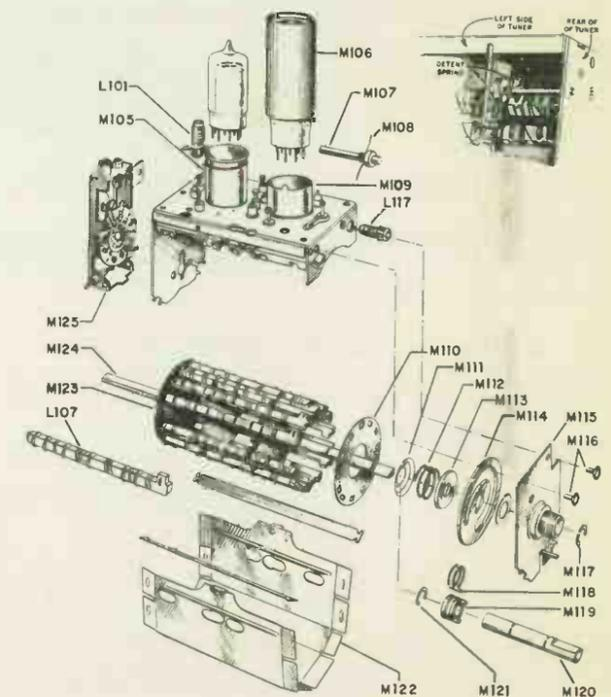

Figure 59. Exploded View of VHF Tuners 94E163-1 and -2. Partial illustration shows placement of detent spring and detent roller.
4. See the partial illustration on figure 59 for proper placement of detent spring and detent roller during tuner reassembly.